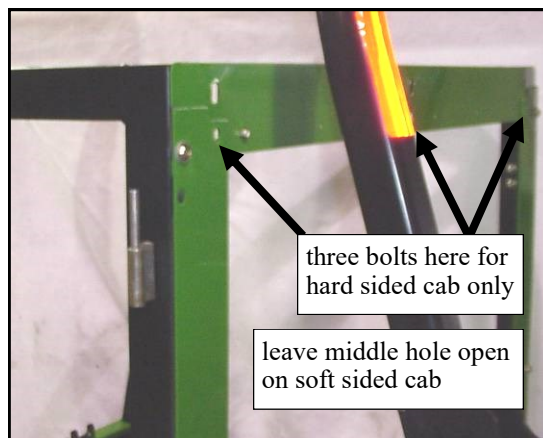

Fig. 5.2 View from left side of vehicle
5.2 For a hard side cab only, there would be a hard rear panel in place in fig. 5.2. Use the following hardware: add three (3) 5/16-18 x 3/4" long button head bolts, 3 steel washers, and 3 plastic washers to the outside surface and 3 steel washers and 3 locknuts to the inside surface to secure the top filler to the rear panel as shown in fig. 5.2.
5.3 For a soft sided cab only, use only the two end holes (not the middle hole). Use two (2) 5/16-18 x 3/4" long button head bolts, 2 steel washers, and 2 plastic washers to the outside surface and 2 steel washers and 2 locknuts to the inside surface. See fig. 5.2.